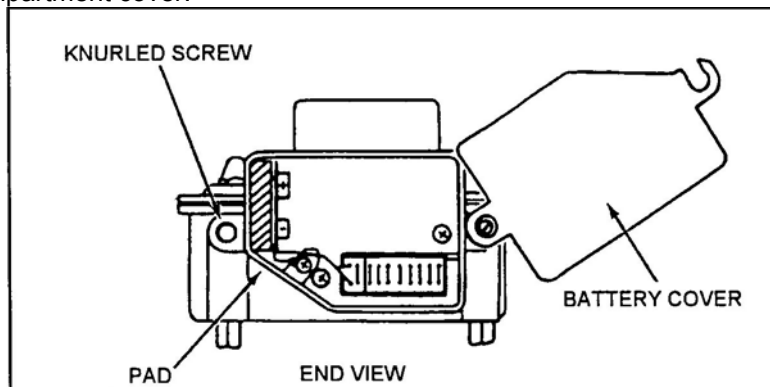

Figure 14. Detector battery compartment.
a. Install the battery (Figure 14).
- (1) Set the RF-OFF-W switch to OFF.
- (2) Loosen the screws to release the battery cover.
- (3) Snap the battery into the clip and place it in the compartment with the connector against the pad.
- (4) Check the area number and detector identification number on the inside of the battery compartment cover.